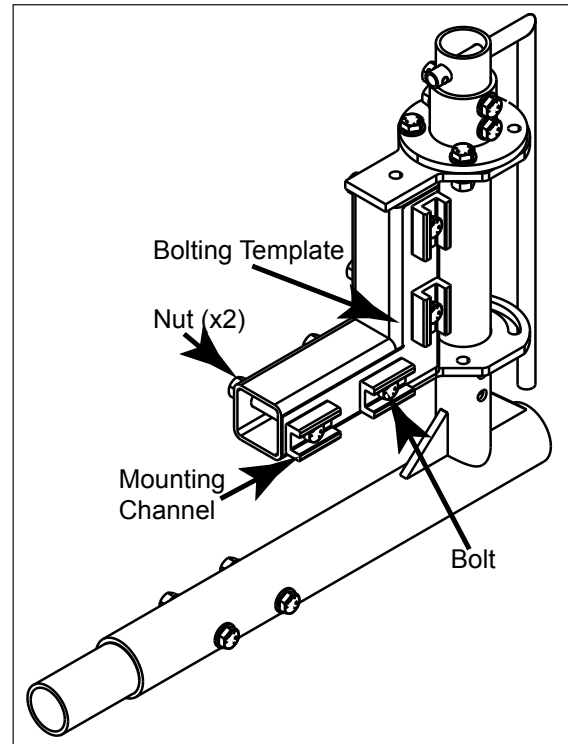

Figure 24: Pivoting Webcam Arm Base
3. Slide two of the mounting channels and bolts into the horizontal mounting channel on the display back. Refer to **Figure 24**.
5. Place the bolting template over the bolts in the channel. The bolting template is important as it makes mounting the arm assembly easier. Refer to **Figure 24**.